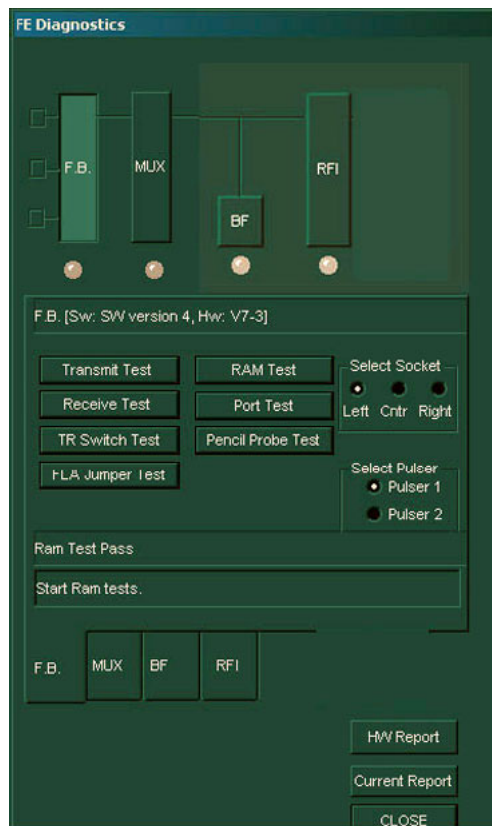
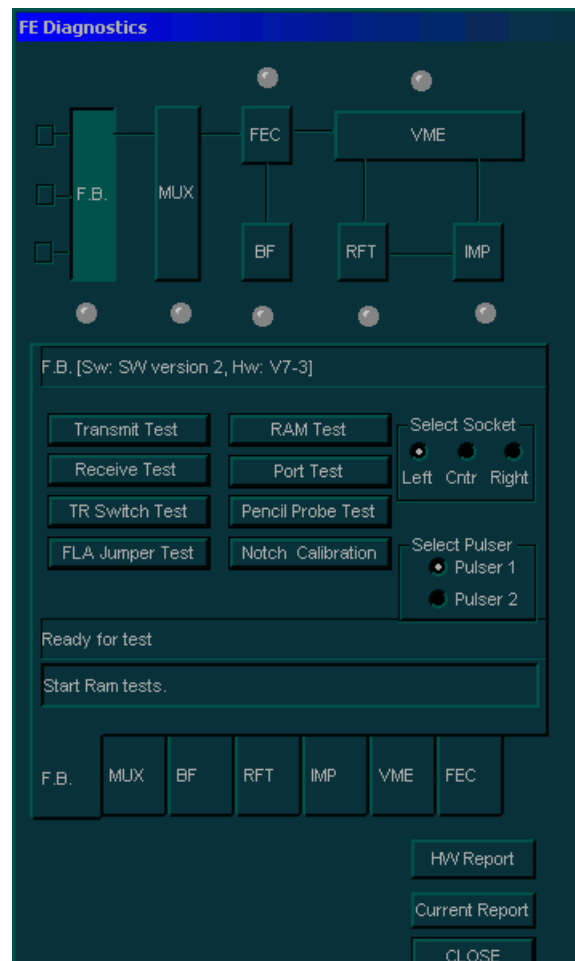
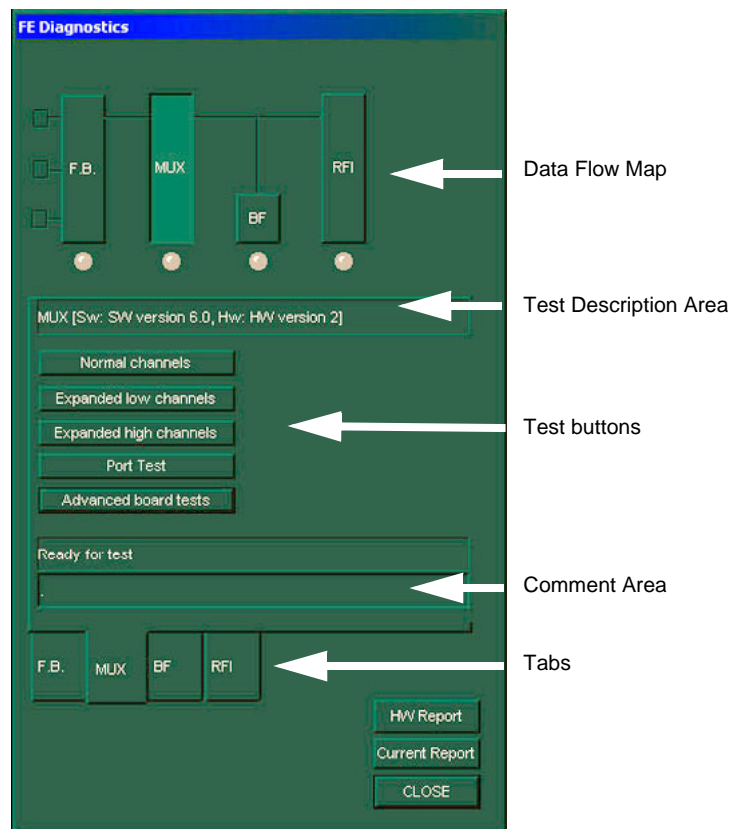

Figure 7-25 F.B. Tab - FE Diagnostics Dialog Box - RAM Test (RFI Configuration)
Figure 7-26 F.B. Tab - FE Diagnostics Dialog Box - RAM Test (RFT Configuration)
Figure 7-27 MUX Tab - FE Diagnostics Dialog Box (RFI Configuration)
- 2) Trackball to the **RAM Test** button and press **Select**. The RAM test is performed and the results are displayed in the **Comments** area, as shown in Figure 7-25 (or Figure 7-26) below::
- 3.) Trackball to the **MUX** button in the **Data Flow Maps** and press **Select**. The **MUX** tab is displayed, as shown in Figure 7-26 (or Figure 7-27) below: